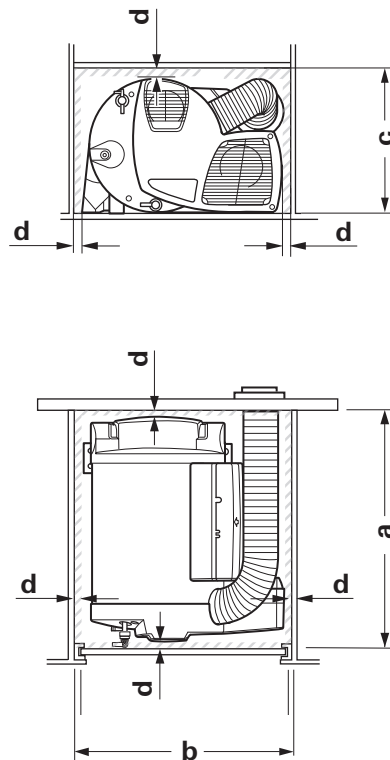

Fig. 8
- The distance between the appliance and surrounding furniture items or vehicle components must be at least 10 mm on all sides (5 mm at the water connection side) (Fig. 8).